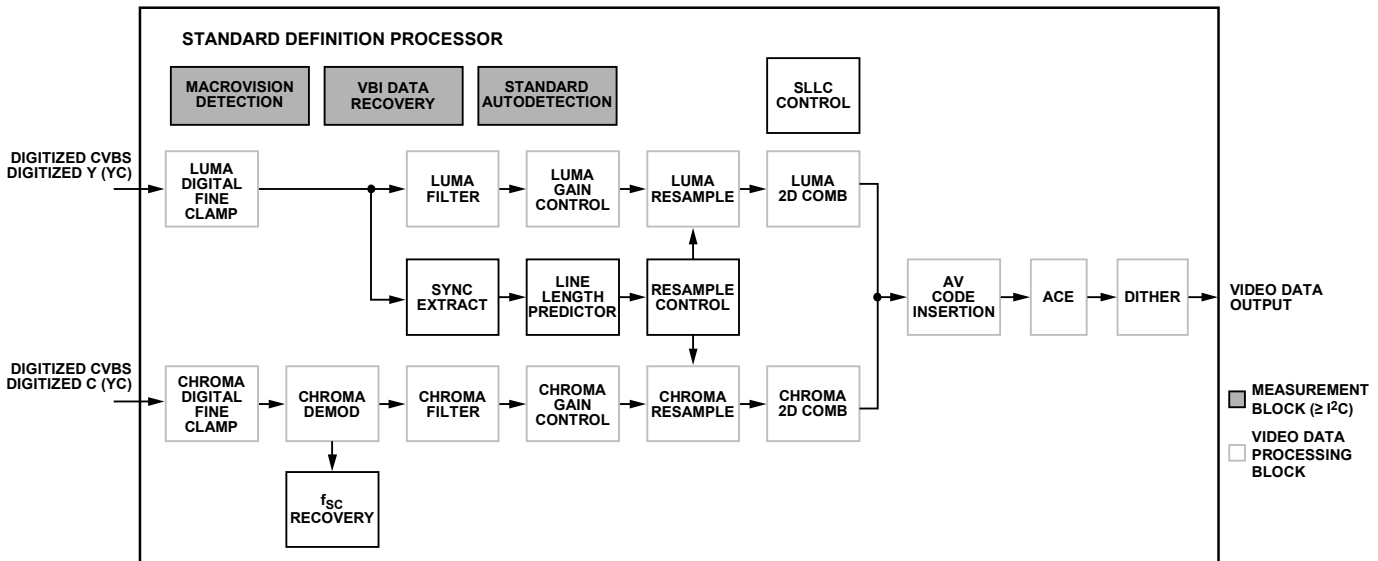

Figure 12. Block Diagram of Video Processor
Figure 12 shows a block diagram of the ADV7182A video processor. The ADV7182A can handle standard definition (SD) video in CVBS, Y/C, and YPrPb formats. The video processor features luminance and chrominance paths. If the input video is a composite type (CVBS), CVBS is supplied to both processing paths.